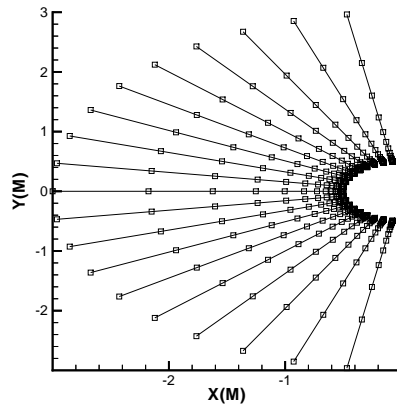

Figure 8-32. A family of J-varying lines for the cylinder data.
As a simple example, read in the cylinder data and choose the J-varying index. You obtain the family of J-varying lines shown in Figure 8-32.
1. From the XY menu, choose XY Legend. The XY Legend dialog appears, as shown in Figure 8-32.